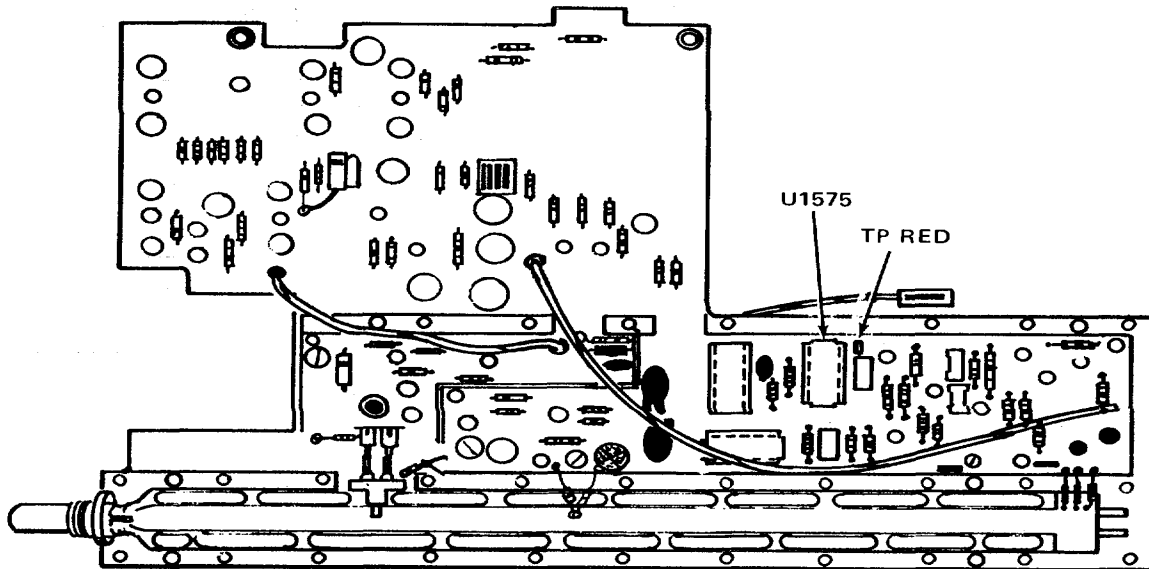

Figure 4-6. Main Board Test Points.
17. Move the test lead to connector P65 Pin 6 (see Fig. 4-6) and check that the voltmeter reads $+100\text{ V}$ ($+20\text{ V}, -5\text{ V}$).
(b). Adjust-INTENSITY LIMIT (R4222) for 100 mVdc reading at test point TP4243 to gnd (option 1: 60 mV). The adjustment is made through the hole near Q6427 on the power supply board (see Fig. 4-6).
Turn the instrument POWER off. Turn the instrument upside down and remove the shield that covers the pulser/sampler circuitry (remove 12 screws). Remove U1575 from its socket. In the following steps, instructions are given on how to provide an external trigger to the 1502 (see Fig. 4-6).